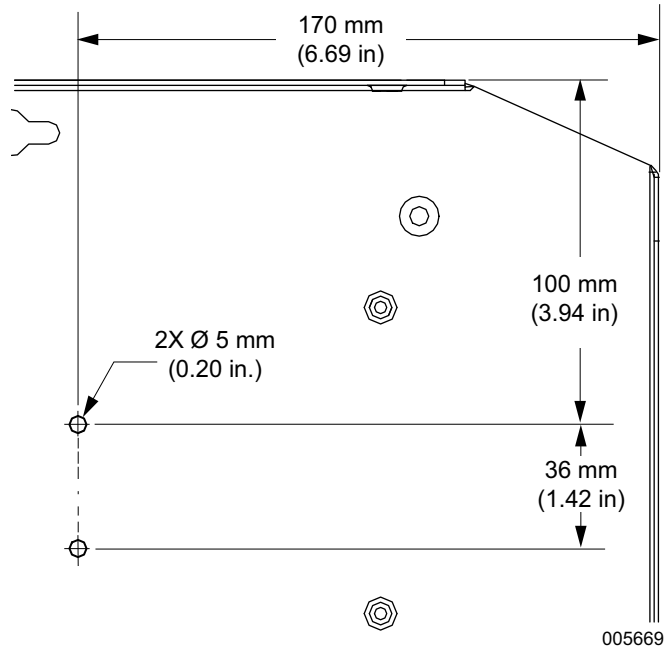
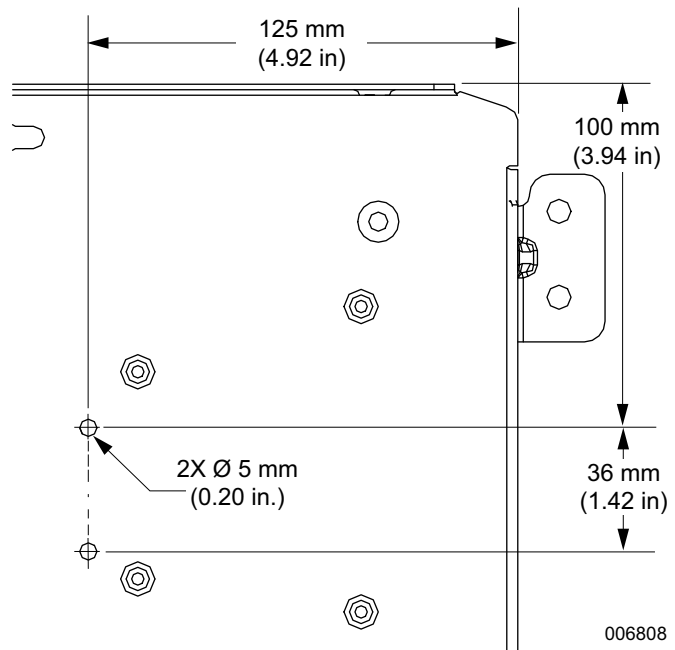

Figure 5-3. Hole Locations—8 kVA Engine Divider Panel
Figure 5-4. Hole Locations—10 & 13 kVA Engine Divider Panel
1. See Figure 5-3 or Figure 5-4. Drill two 5 mm (0.20 in) holes in upper right corner of engine divider panel under the controller.